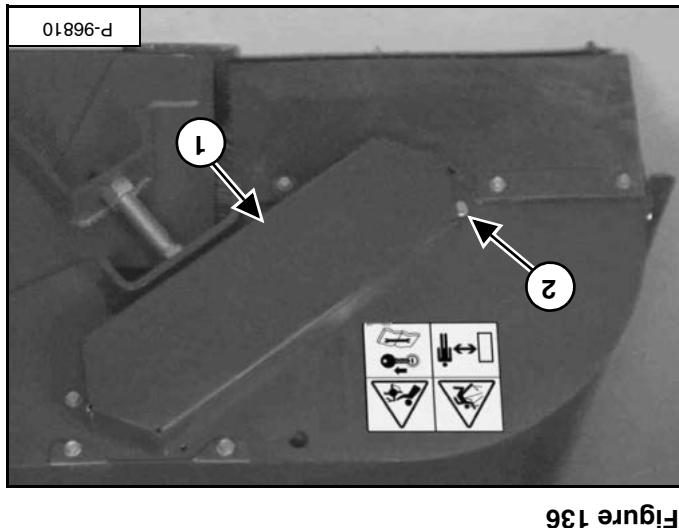

Figure 136
Install the chain cover (item 1) [Figure 136] from the chain cover.
Install the bolts (item 2) [Figure 136] from the chain cover.